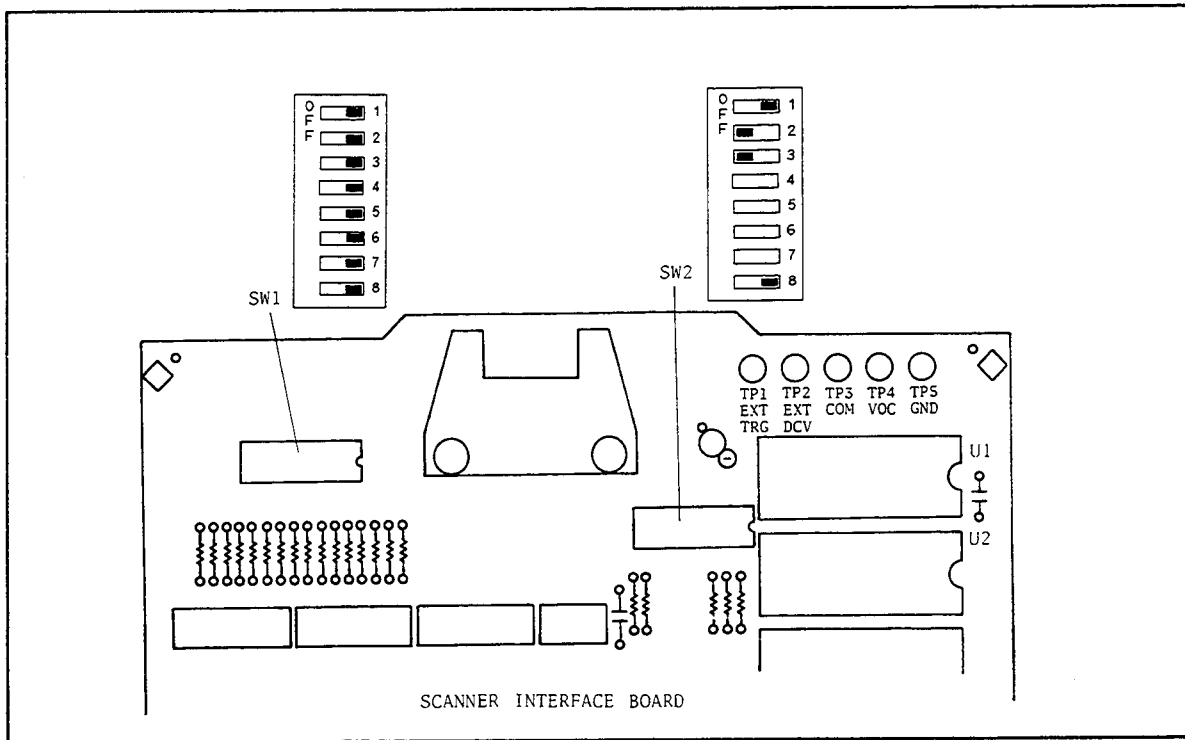

Figure 6-18. SW1 and SW2 settings
4. Set SW1 and SW2 on the scanner interface board to the same settings as when the board is shipped from the factory referring to Figure 6-18.